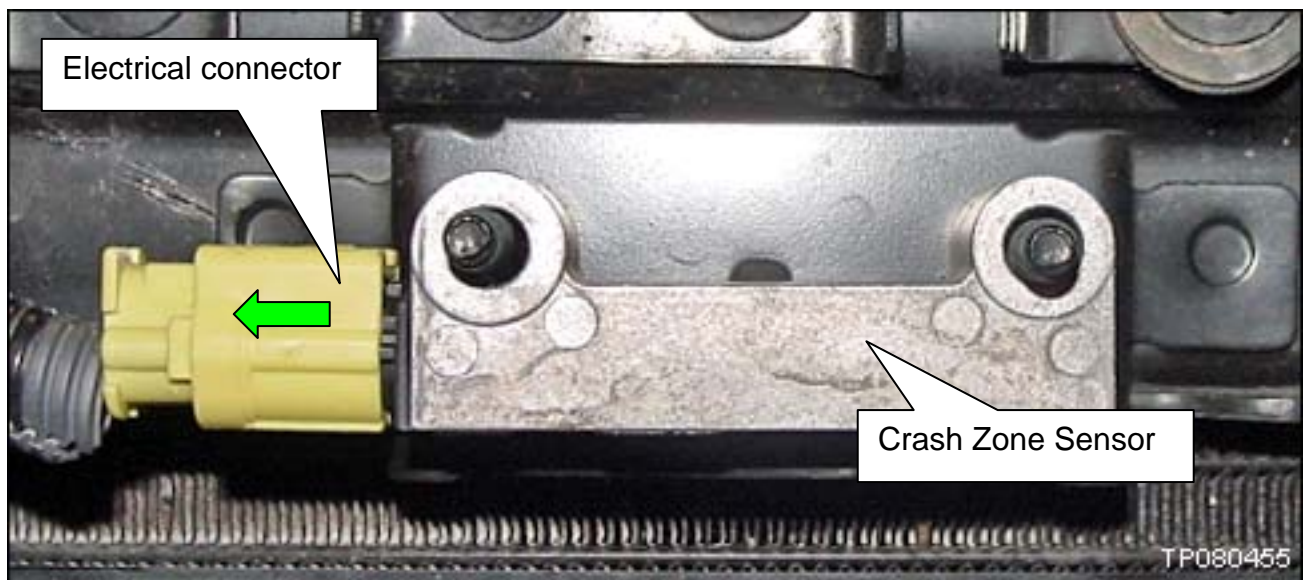

Figure 4
11. Disconnect the electrical connector shown in Figure 4.